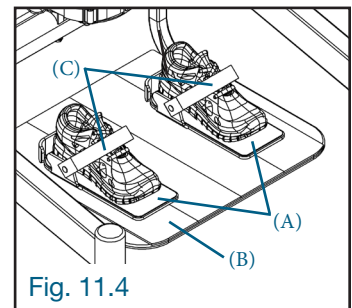

Fig. 11.4
11.4 FOOT SUPPORT ADJUSTMENT (fig. 11.4)